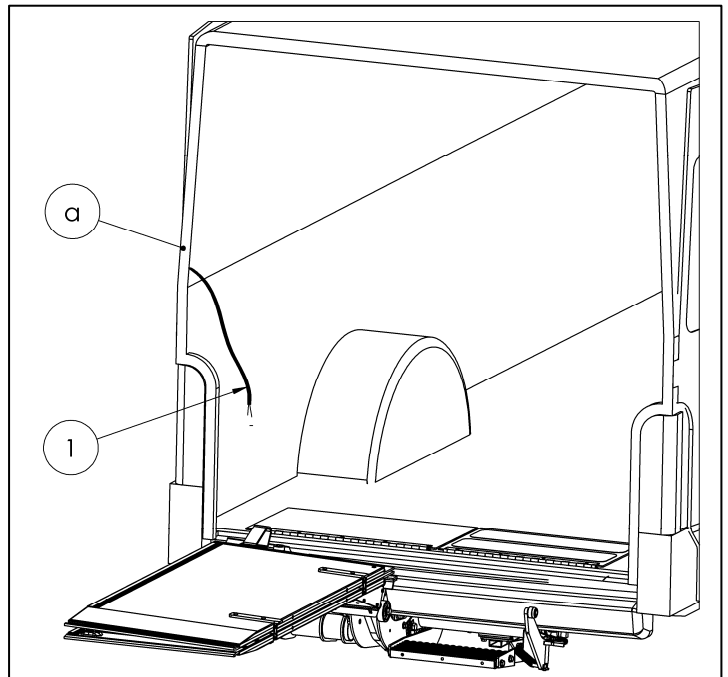

Fig. 61
- Find the cable connection point for the license plate light in the C column (a) on the Ford Transit (see Fig. 61).